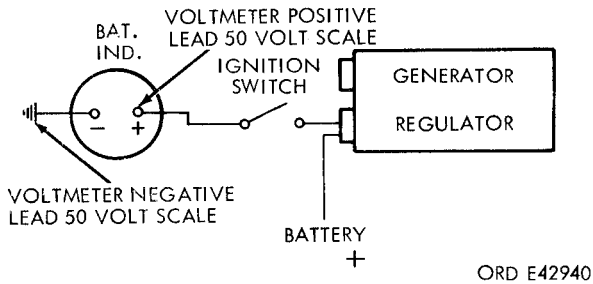

Figure 2-15. Battery indicator circuit.
(1) Turn the ignition switch to OFF.
(2) Disconnect the wire at the battery indicator and connect it to the positive lead of a voltmeter (fig. 2-15). With the negative lead of the voltmeter grounded, and the ignition switch ON, the voltmeter should indicate battery voltage.
(3) Start and run the engine at 1,000 to 1,200 rpm; the voltmeter should indicate a generator voltage of 27.5 to 28.5 volts.
(4) If the voltmeter does not indicate generator voltage charge as specified, check the generating system and adjust, replace, or repair components as necessary. The battery indicator wiring is shown in figure 2-15.
(5) If the voltmeter indicates a generator voltage charge as specified, and the battery indicator does not conform to the test in *b* and *c* above, replace the battery indicator (para 2-22 b).